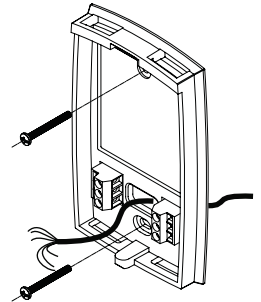

Figure 3
- 6 Secure the wallplate to the wall with supplied mounting screws as per Figure 3.